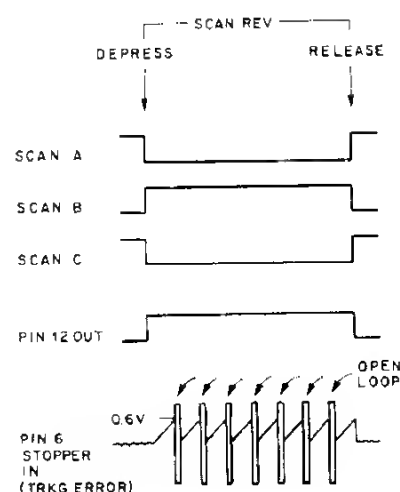

Fig. 14 Scanning operation timing chart
The time chart for the scanning operation is outlined in Fig. 14. When the SCAN REV key is pressed, SCAN A (L), SCAN B (H) and SCAN C (L) commands from the CONT board are applied to the UM4004, resulting in switch 2 being turned on by the internal scan logic, and the slider servo thus being made "open loop". At the same time, a -3.3V output voltage appears at pin 12. This voltage is inverted and amplified by AMP4, resulting in the slider being shifted in the reverse direction.